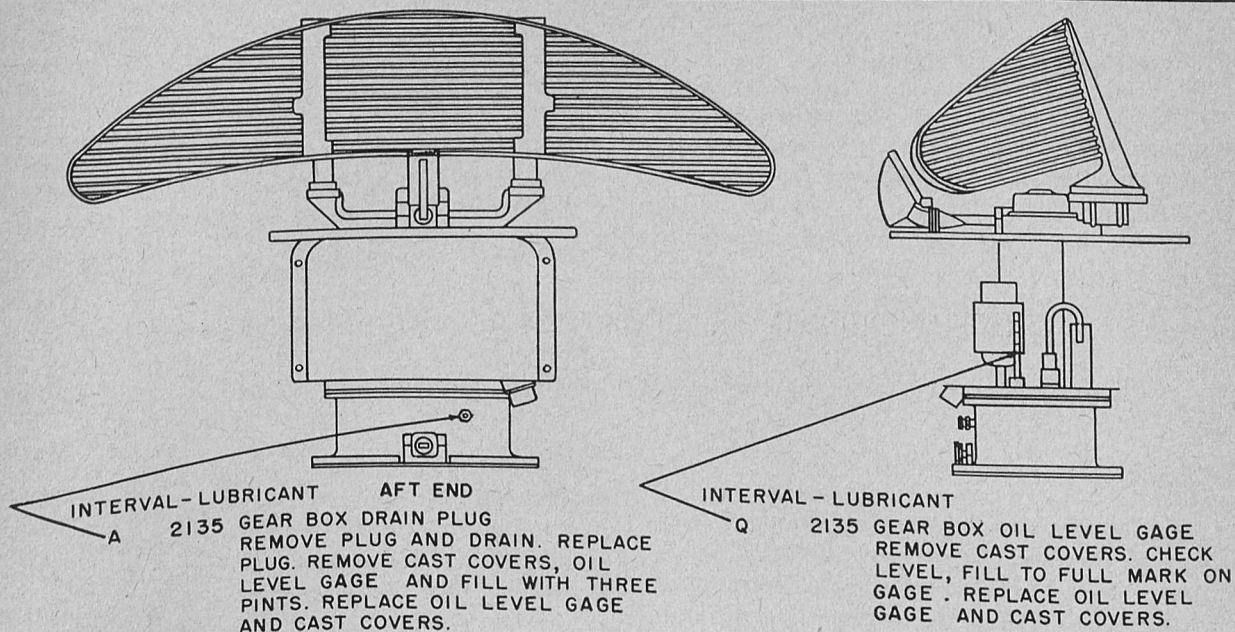

Figure 64. Lubrication chart, antenna gearbox.
- (2) Place 10 drops of oil (2135) in the oilholes at each end of the blower motor.
- (3) Close the hinged panel and replace the receiver-transmitter front cover.
b. Antenna Gearbox (fig. 64).
- (1) Remove the two-piece pedestal cover by loosening the four captive bolts that hold it to the antenna pedestal.
- (2) Remove the oil gage from the upper end of the filler pipe and check the level of the oil in the gearbox.
- (3) If the oil level is below the FULL mark on the gage, add just enough oil (2135) to bring the oil level to the FULL mark.
- (4) Once a year, drain all oil from the gearbox by removing the drain plug on the antenna pedestal (fig. 64).
- (5) Replace the drain plug and tighten it securely.
- (6) Refill the gearbox with 3 pints of oil (2135).
- (7) Replace the oil gage in the upper end of